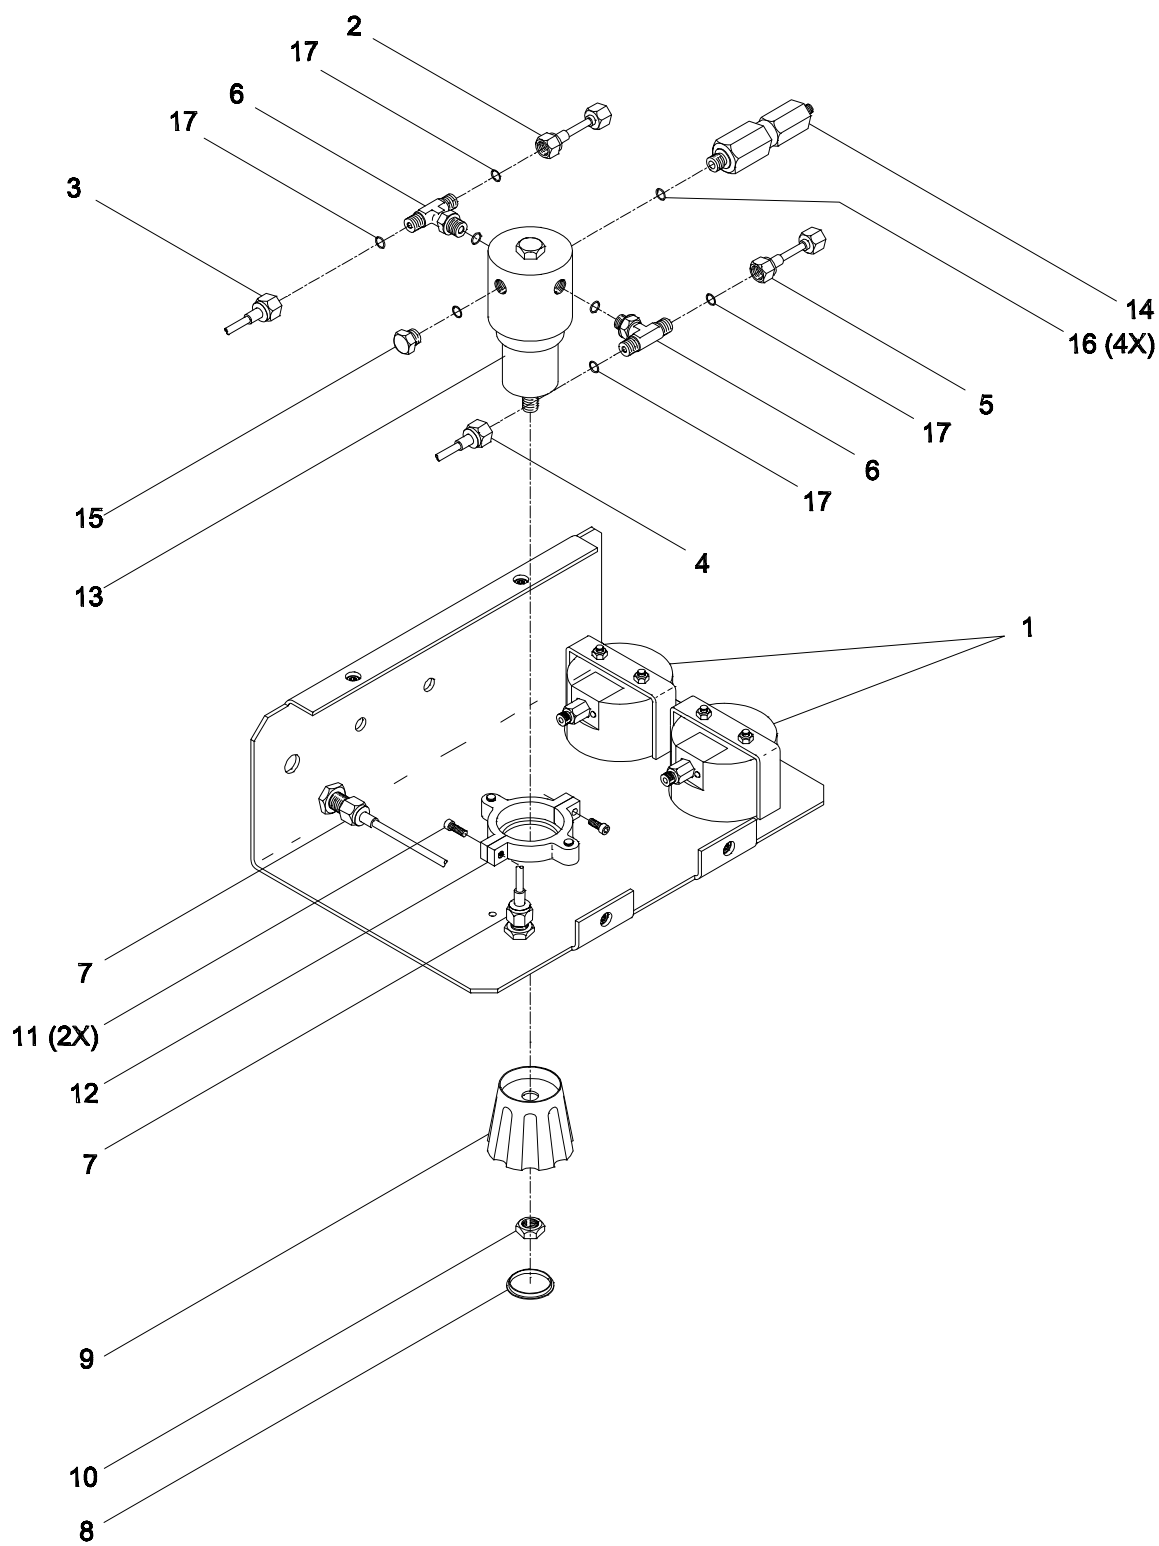

Figure 6-3. Regulator and Relief Valve Removal and Replacement
6.6.3 Regulator (AHP-V101) Removal and Replacement. (Numbers in parentheses within text refer to Figure 6-3, unless otherwise noted.)
- (7) Insert regulator (13) through panel opening as shown in Figure 6-3.
- (8) Inspect upper nut on tubing assemblies (2,5) and ensure O-ring is in place and in good condition. Replace O-ring with new lubricated O-ring if required.
- (9) Loosely thread tubing assembly nuts (2, 3,4,5) onto positionable tees (6). Also thread upper nuts on tubing assemblies (2,5) onto connection fittings of inlet and outlet pressure gauges (1). Do not tighten nuts at this time.
- (16) Tighten connection between gauges (1) and tubing assemblies (2,5) as follows: Using 9/16" and 11/16" wrenches, hold connection fitting on gauge (1) in place while tightening upper nut on tubing assemblies (2 or 5, as appropriate).
- (17) Using 11/16" wrench, tighten connection between tubing assemblies (2,3,4,5) and positionable tees (6).
- (18) Using 11/16" wrench, tighten inlet and outlet tubing assembly nuts (7).
- (19) Perform system tightness test in accordance with paragraph 6.6.1. BARS panel assembly is reinstalled during last step of test procedure.
6.6.4 Relief Valve (AHP-V102) Removal and Replacement. (Numbers in parentheses within text refer to Figure 6-3.)